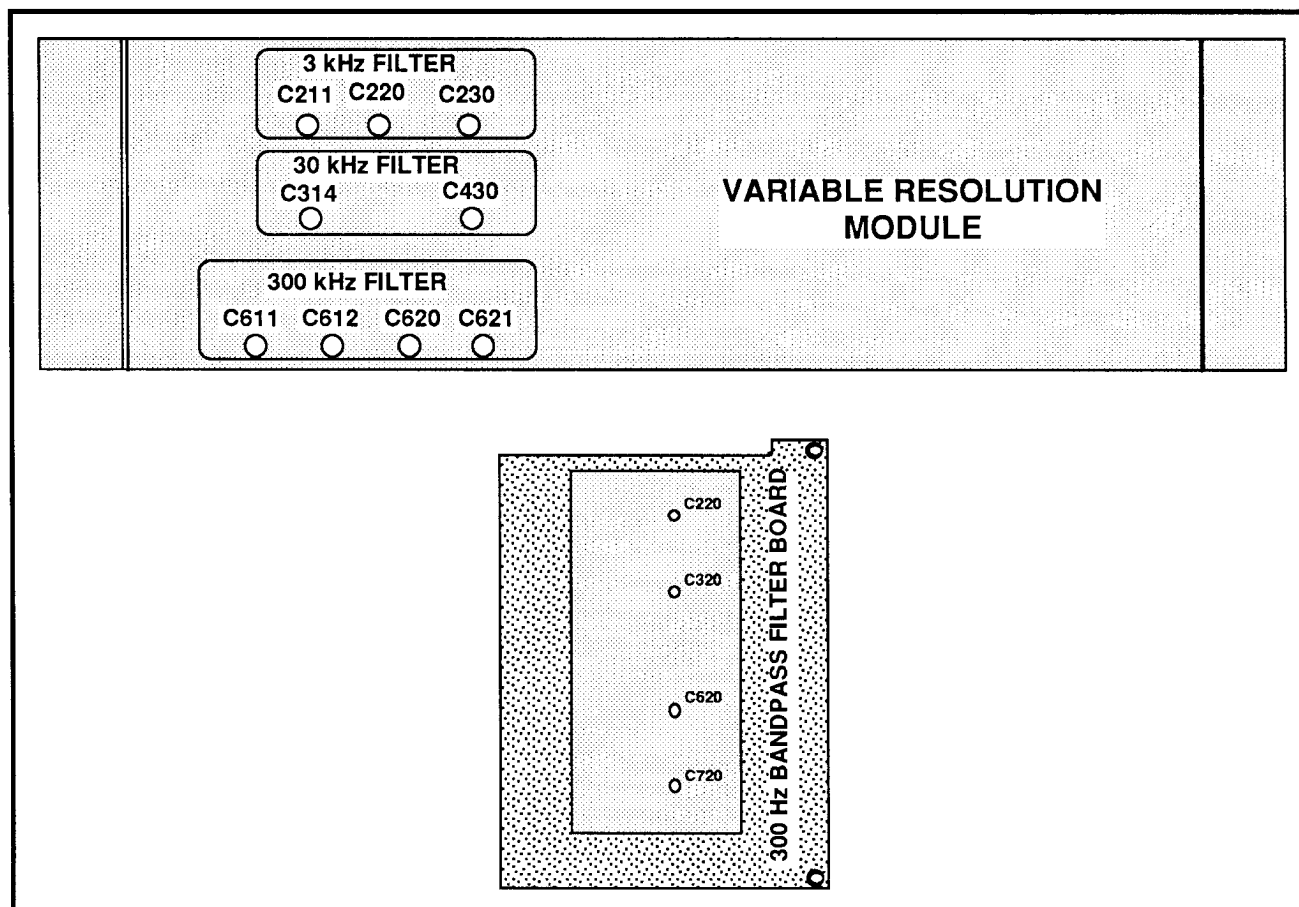

Figure 4-8. Variable Resolution module and 300 Hz Bandpass Filter board adjustment locations.
(5) Save the display in one of the DISPLAY STORAGE registers.
(6) Reset the RES BW to 300 kHz.
(7) Adjust C611, C612, C620, and C621 on the VR Filter Select board (Figure 4-8) for highest amplitude, best filter shape, and centering.
(8) Set the reference level for a full-screen display, and enable the VID FLTR.
(9) Enable bandwidth mode by pressing APPL 9 0 and entering -6 dB, then pressing BKSP and 0.
(10) Check bandwidth shape factor. The bandwidth at the 60 dB down point must not exceed 7X the bandwidth at the 6 dB down point.
(11) Check that the filter amplitude is -20 dBm,  $\pm 4$  dB.
(12) Disconnect the signal from the RF INPUT.
(5) Adjust C314 and C430 on the VR board (Figure 4-8) for highest amplitude and best filter shape.
(6) Set the reference level for a full screen display, and enable the VID FLTR.
(7) Enable bandwidth mode by pressing APPL 9 0 and entering -6 dB, then pressing BKSP and 0.
(8) Check bandwidth shape factor. The bandwidth at the 60 dB down point must not exceed 7X the bandwidth at the 6 dB down point.
(9) Check that the filter amplitude is -20 dBm,  $\pm 4$  dB.
(10) Disconnect the signal from the RF INPUT.
(5) Adjust C211, C220, and C230 on the VR Filter board (Figure 4-8) for highest amplitude and best filter shape.
(6) Set the reference level for a full-screen display, and enable the VID FLTR.